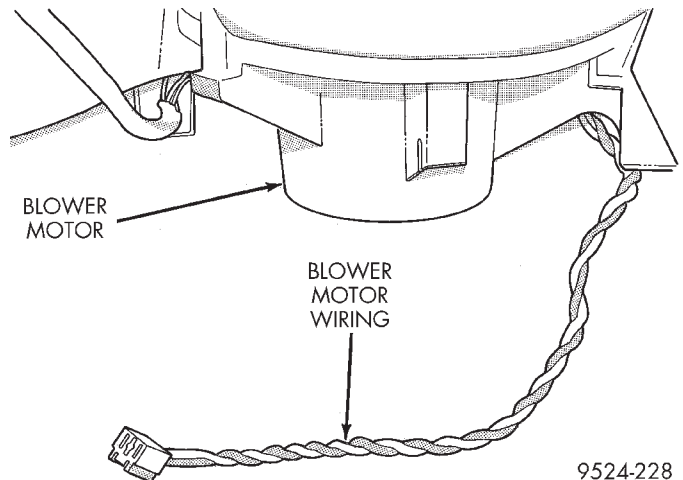
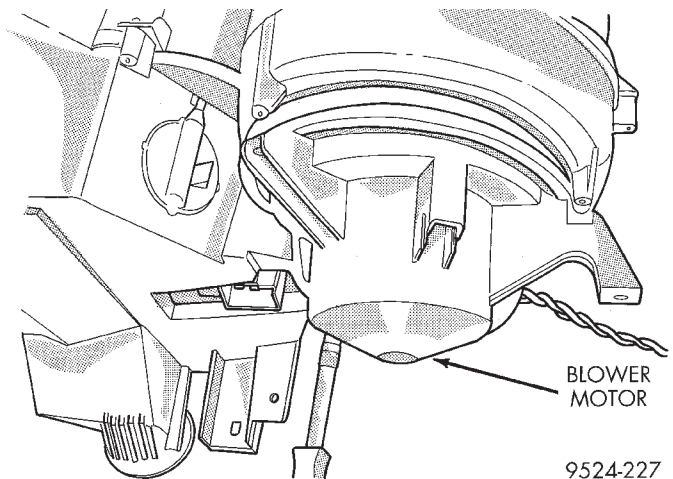

Fig. 12 Blower Motor Wiring
Fig. 13 Blower Motor
- (1) Disconnect battery.
- (2) Remove lower right under panel silencer duct.
- (3) Remove blower motor connector from resistor block (Fig. 12).
- (4) Remove blower motor case retaining screws.
- (5) Lower blower motor case from housing (Fig. 13).
- (6) Remove fan scroll from motor shaft.
- (7) Remove motor from motor case.